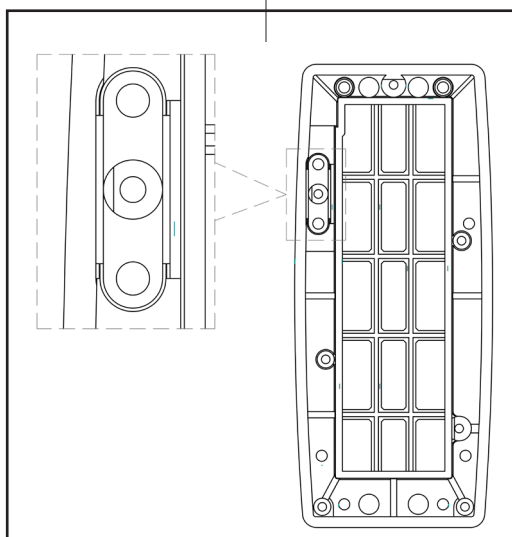

Fig. 4
- Hook it up to the electronic holder side and screw up the metric screw (ref. H, see fig. 4).